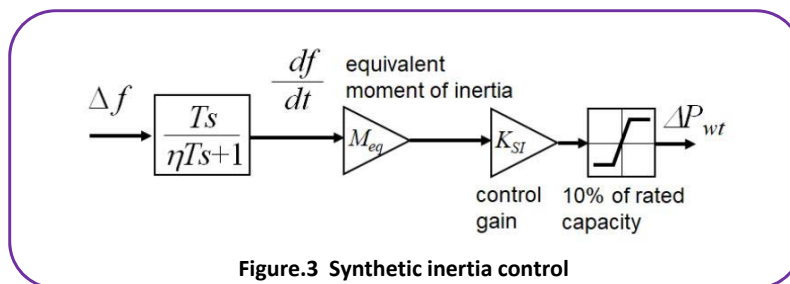

Figure.3 Synthetic inertia control
- It is possible to express the dynamic behavior of the synchronous generators by changing the generation output based on the product of **ROCOF** and the **moment of inertia**. Therefore, the synthetic inertia control can be simply realized by Figure 3. *Rate of Change of Frequency (ROCOF)